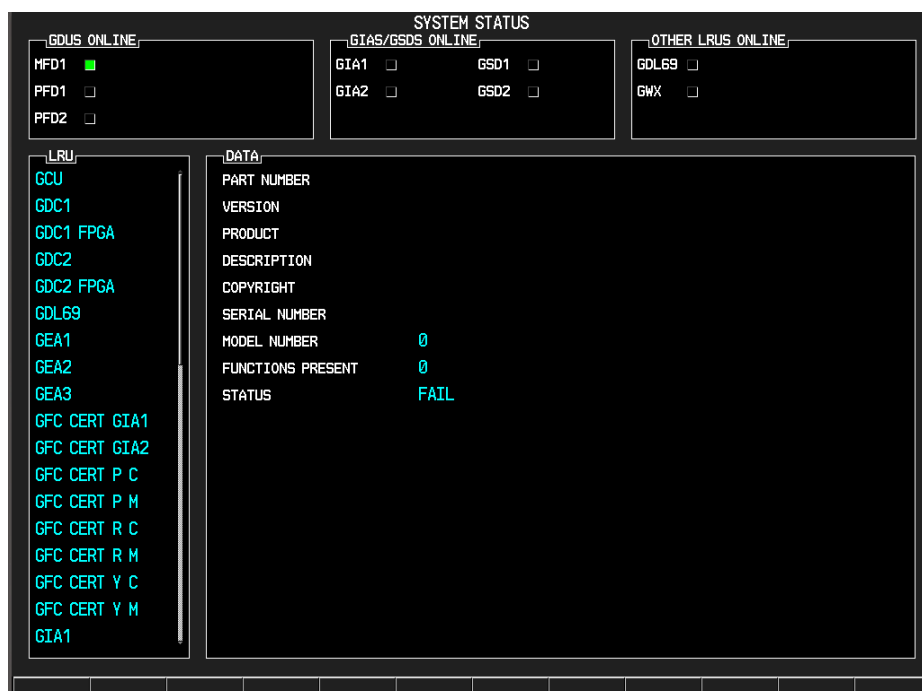

Figure 8-1. System Status Page (Configuration Mode)
1. Start the system in configuration mode. The System Status Page displays a list of LRUs in the LRU window (Figure 8-1).